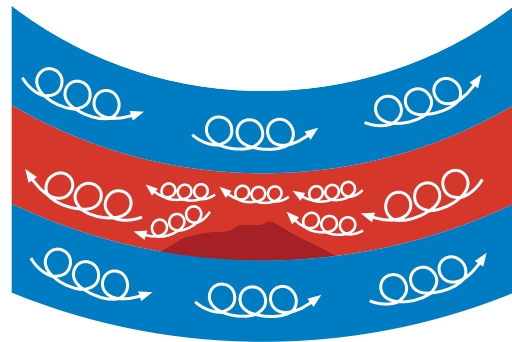

Figure 2. Channels
- The “self-scrubbing effect” occurs as a result of any accumulation of solids in the channel, which reduces cross-sectional area and thereby increases fluid velocity. This localized increase in velocity creates a scrubbing effect (See Figure 2).